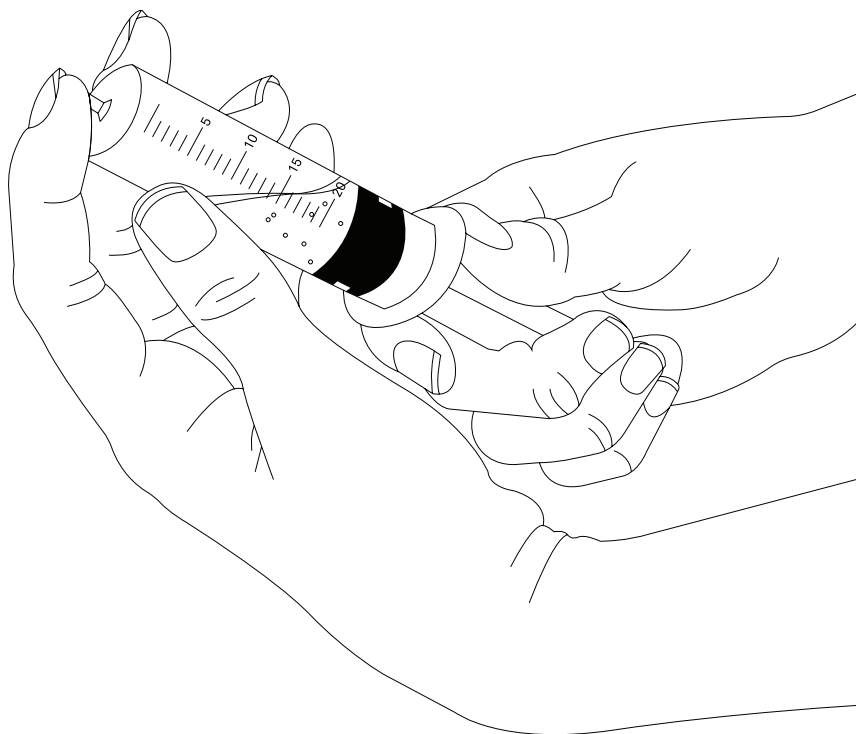

Figure 4 Collecting air bubbles
5. Shake and tilt the reservoir syringe to collect the air bubbles appearing at the inner surface of the syringe (Figure 4).